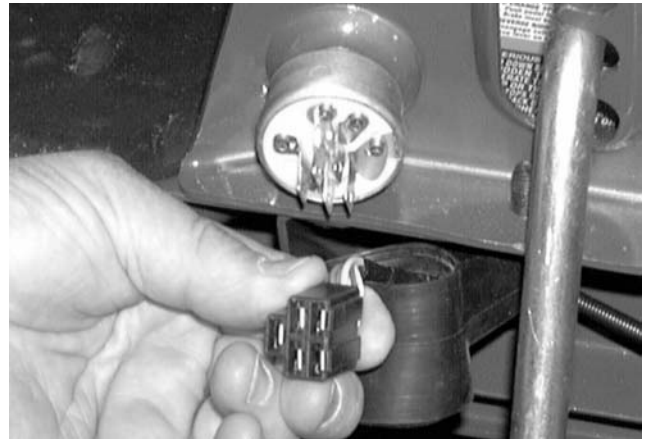

**Figure 8-74.**
–There will be **CONTINUITY**. See Figure 8-74.